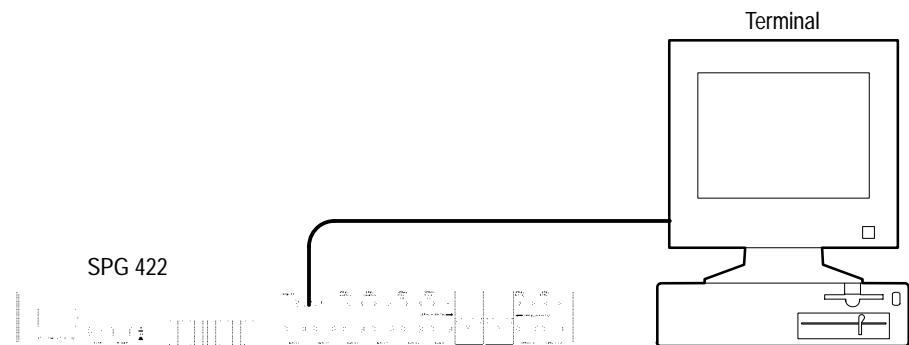

Figure 3–9: How to Connect the Terminal
3. Attach the cable to the Terminal RS-232 port and to the SPG 422 Remote input, as shown in Figure 3–9.